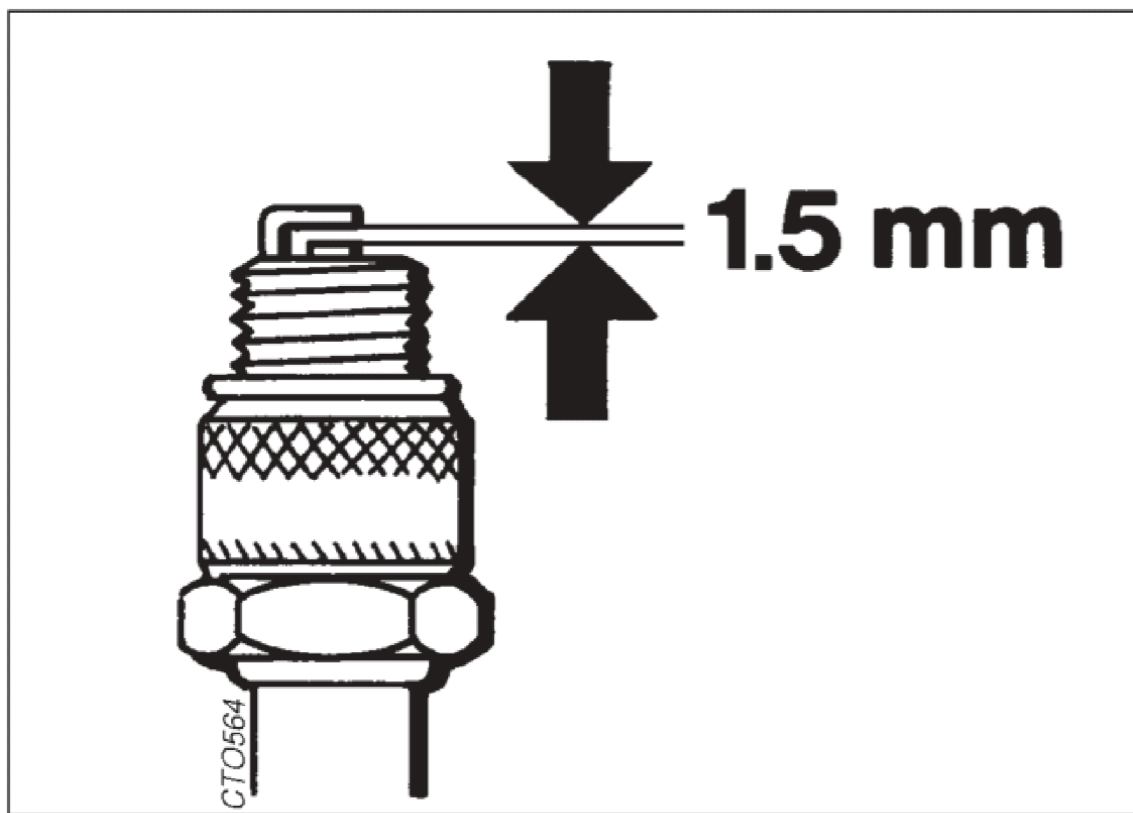

Fig. 14
**Maintenance****Spark plug (fig. 14)**